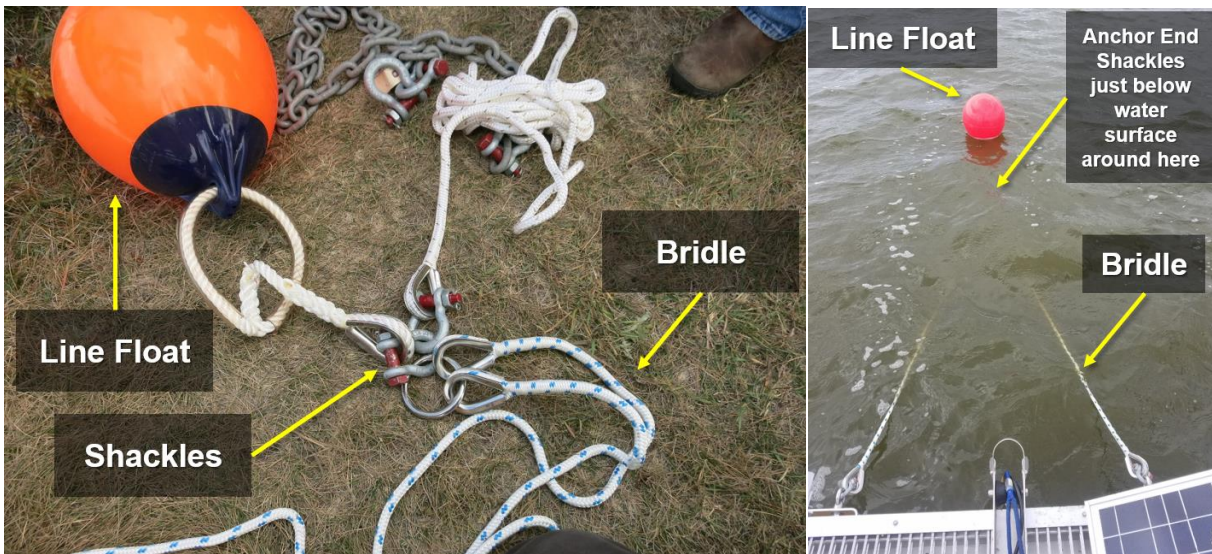

Figure 7. Shackles at the Anchor End of Bridle with Line Floats
- c. Inspect the shackles of the bridle on the anchor end, too (see Figure 7). Use a boat to access this, if necessary, and pull on the rope to lift shackles. If you use the buoy to access, it may require some muscle to lift the anchor chain to enable these shackles to become visible for inspection.